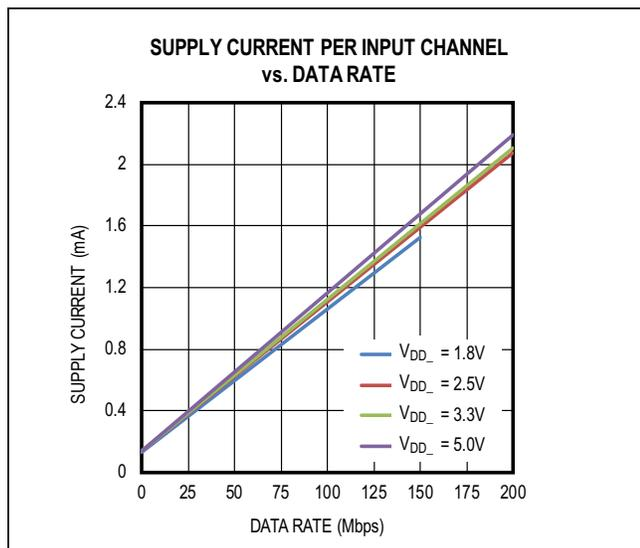
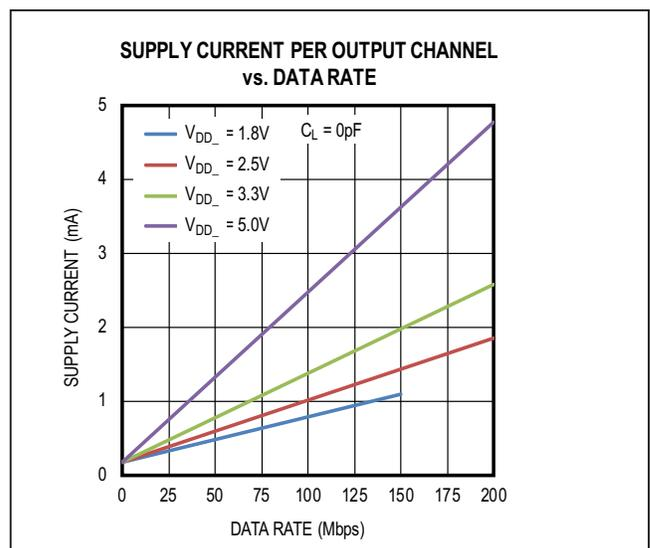

Figure 7. Supply Current Per Input Channel
Figure 8. Supply Current Per Output Channel
The required current for a given supply ( $V_{DDA}$  or  $V_{DDB}$ ) can be estimated by summing the current required for each channel. The supply current for a channel depends on whether the channel is an input or an output, the channel's data rate, and the capacitive or resistive load if it is an output. The typical current for an input or output at any data rate can be estimated from the graphs in Figure 7 and Figure 8. Please note the data in Figure 7 and Figure 8 are extrapolated from the supply current measurements in a typical operating condition.
The total current for a single channel is the sum of the “no load” current (shown in Figure 7 and Figure 8), which is a function of Voltage and Data Rate, and the “load current”, which depends on the type of load. Current into a capacitive load is a function of the load capacitance, the switching frequency, and the supply voltage.
- ISDO operating at 3.3V and 10Mbps, consuming 0.24mA, estimated from Figure 7.
- $\overline{IFault}$  operating at 3.3V and DC, consuming 0.14mA, estimated from Figure 7.
- OAUX operating at 3.3V and 1Mbps, consuming 0.19mA, estimated from Figure 8.  $I_{CL}$  on OAUX for 10pF capacitor at 3.3V is 0.017mA.
- OSDI operating at 3.3V and 10Mbps, consuming 0.30mA, estimated from Figure 8.  $I_{CL}$  on OSDI for 15pF capacitor at 3.3V is 0.25mA.
- OSCLK operating at 3.3V and 20Mbps, consuming 0.42mA, estimated from Figure 8.  $I_{CL}$  on OSCLK for 15pF capacitor at 3.3V is 0.50mA.
- $\overline{OCS}$  operating at 3.3V and 2.5Mbps, consuming 0.21mA, estimated from Figure 8.  $I_{CL}$  on  $\overline{OCS}$  for 15pF capacitor at 3.3V is 0.062mA.
- IAUX operating at 2.5V and 1Mbps, consuming 0.15mA, estimated from Figure 7.
- ISDI operating at 2.5V and 10Mbps, consuming 0.23mA, estimated from Figure 7.
- ISCLK operating at 2.5V and 20Mbps, consuming 0.33mA, estimated from Figure 7.
- $\overline{ICS}$  operating at 2.5V and 2.5Mbps, consuming 0.16mA, estimated from Figure 7.
- OSDO operating at 2.5V and 10Mbps, consuming 0.27mA, estimated from Figure 8.  $I_{CL}$  on OSDO for 15pF capacitor at 2.5V is 0.19mA.
- $\overline{OFAULT}$  operating at 2.5V and 1Mbps, consuming 0.18mA, estimated from Figure 8.  $I_{RL}$  on  $\overline{OFAULT}$  for 10kΩ resistor at 2.5V is 0.25mA.